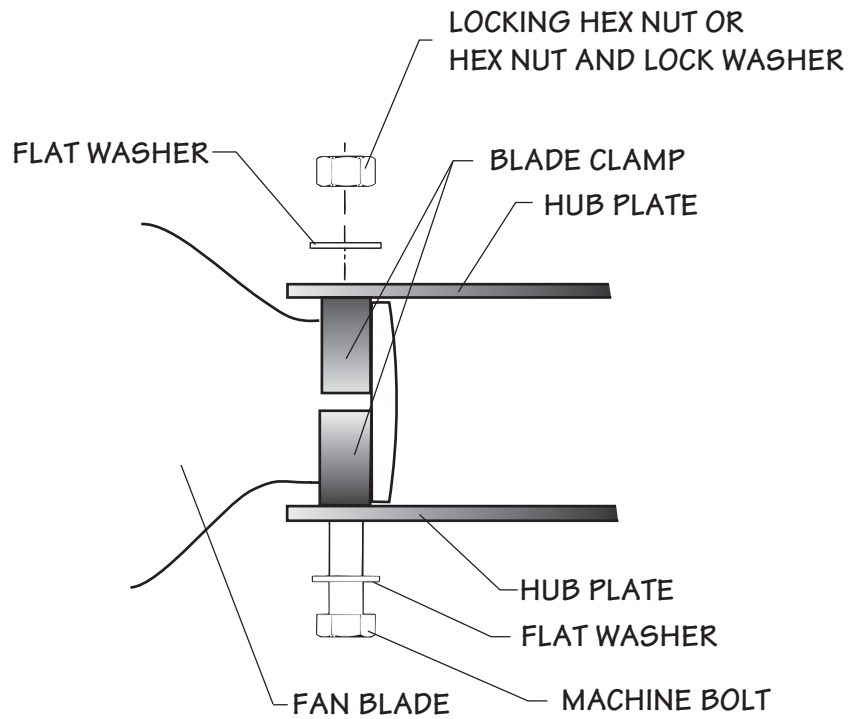

Figure 5
2 Remove one set of blade clamps from the hub assembly. Blade clamps are installed on the hub assembly at the factory with spacers for shipping purposes. Remove and discard the spacers. Position the blade clamps around the shank of a blade with the machined-face end of the blade clamp against the blade safety shoulder. See **Figure 5**. Large nylon cable ties can be used to hold blade clamps on the blade during installation providing easier assembly.
- 3 Insert the blade with blade clamps around the shank and with the concave blade side (TOP) on the discharge side between the hub assembly plates as shown in **Figure 4**. Vertically align the two bolt holes in the clamps and plates. Install two lubricated $\frac{3}{4}$ " bolts, four $\frac{3}{4}$ " flat washers, (two $\frac{3}{4}$ " lock washers if hardware material is monel), and two $\frac{3}{4}$ " hex nuts, engaging the nuts only three to four threads as shown in Figure 5. Do not tighten the hardware until all the blades have been installed. The blade must be free to rotate in the clamp for pitch adjustment.
- 2 Pull the blade outward so the safety shoulder is in contact with the blade clamp, then set the pitch. See **Figure 5**. Blades should be within $\pm 1/4^\circ$ of the desired pitch angle. After the desired setting is obtained, progressively tighten the $3/4$ " hex nuts to 120 ft·lbf (163 N·m) torque. Recheck the pitch angle. If required, loosen the hex nuts and reset the pitch as necessary until the proper pitch angle is obtained with the $3/4$ " hex nuts at 120 ft·lbf (163 N·m) torque.